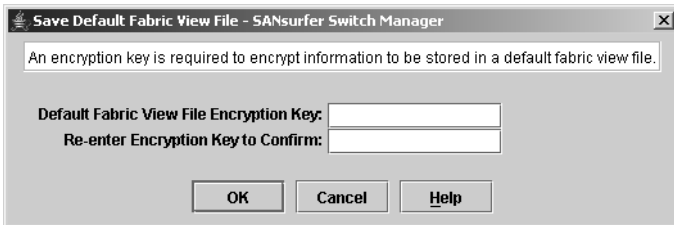

Figure 33. SANsurfer Switch Manager nonsecure connection check window
7. If the switch module is not configured for a secure connection, click **OK**, as shown in Figure 33.